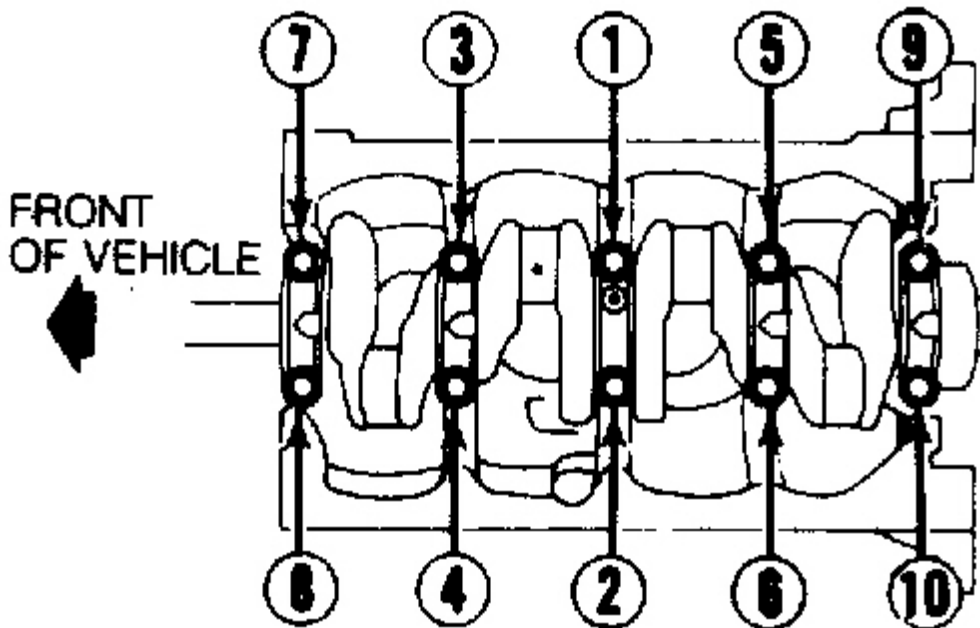

Fig. 7: Tightening Main Bearings
3. Measure bearing clearances using Plastigage method. Observe correct tightening sequence. See **Fig. 7** . If clearance exceeds specifications, grind journals for undersize bearings.